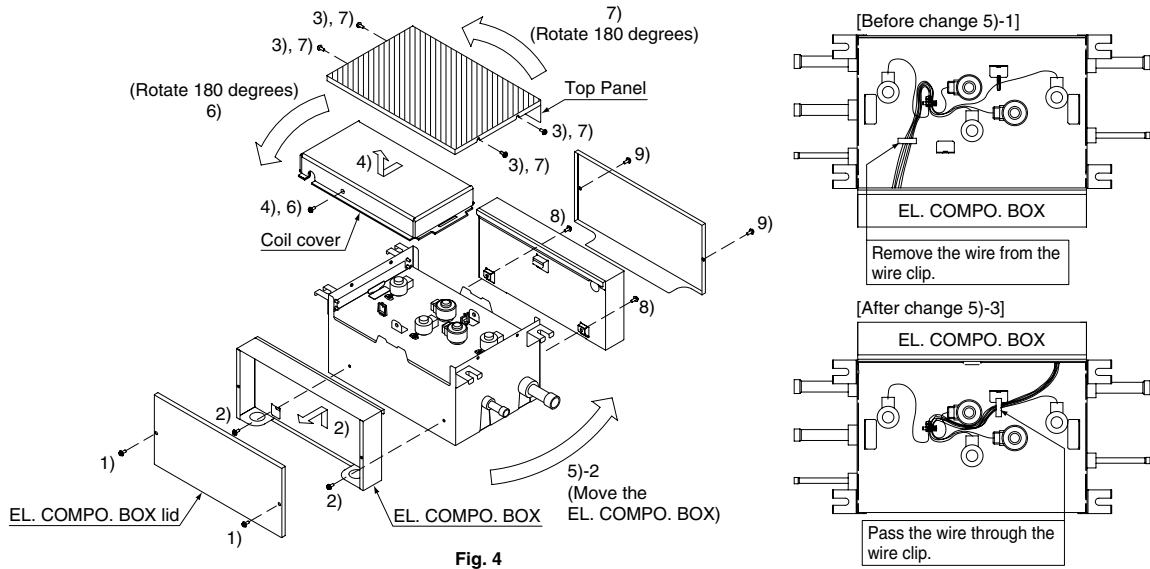

Fig. 4
- (1) When necessary, use the following procedure to change the EL. COMPO. BOX mounting surface.
**(Refer to Fig. 4)**
- The BS unit has a top and a bottom, so install it so that the diagonal lines in the figure 4 are where the top is. (Failing to do so may prevent the unit from operating properly and increase the volume of the operating noise.)